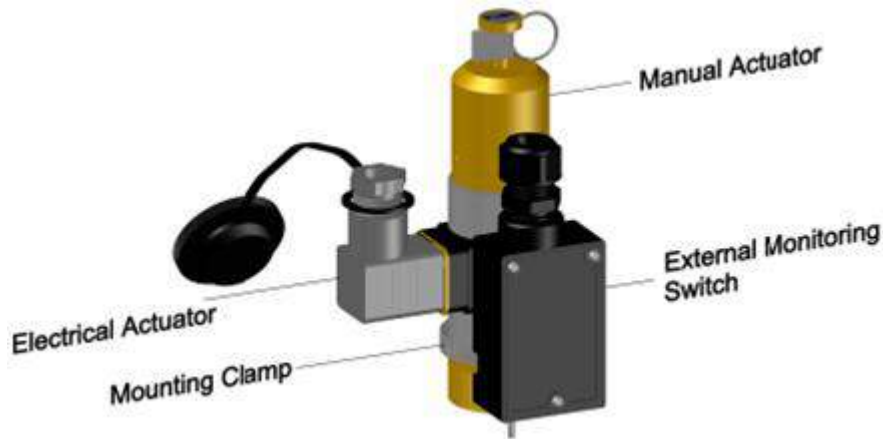

Figure 48: External Monitoring Switch Installation
- c. Mount the external monitoring switch onto the electrical actuator body with mounting clamps. Tighten the mounting clamp to the electrical actuator body (See Figure 48).